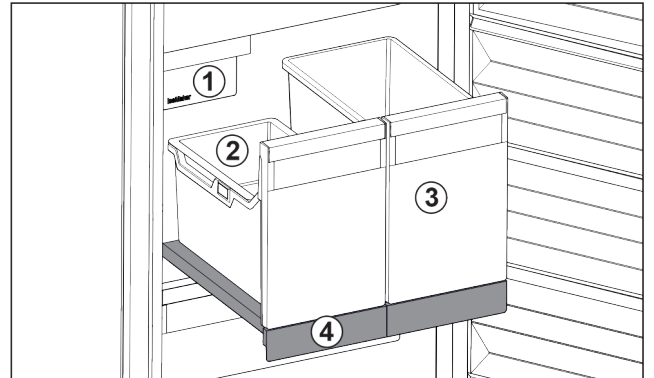

Fig. 117 Pull-out board with IceTower
- (1) IceMaker
- (2) Hang-on tray for ice cubes
- (3) Container for pizza or alcoholic beverages, for example
- (4) Pull-out board
There are two high (IceTower) containers on the pull-out board. Ice cubes from the IceMaker are collected and stored in the Fig. 117 (2) container. The container Fig. 117 (3) is suitable for storing tall foodstuffs or beverages such as pizzas or alcoholic drinks.